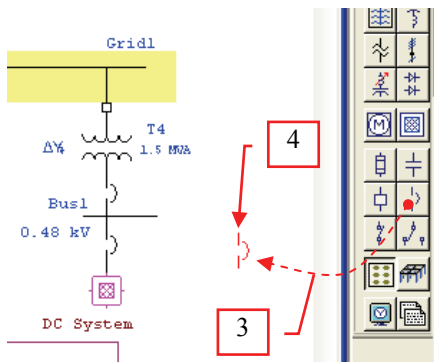

Fig. 28
3. Add an LV Circuit breaker on the one line diagram presentation (See Fig. 28).
4. Double click on the LV Circuit breaker symbol (See Fig. 28).